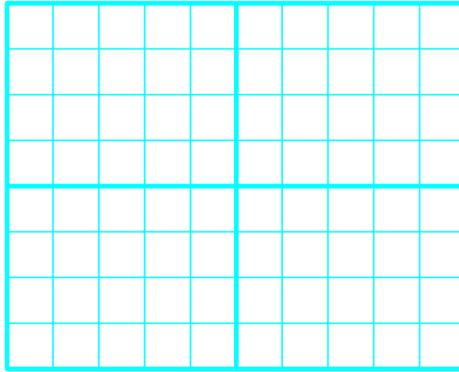

Figure 6.13 *Input/output signal waveforms for triangular input voltage*
3.5. For a triangular input signal with $V_{in,p-p} = 0.4\text{V}$, draw the input and output waveforms in Figure 6.13 of the Lab Measurements Sheet. Determine if the output waveform is what you would expect from an ideal integrator. How close is the waveform to the ideal integrator circuit? Record your observations in section 3.3 of the Lab Measurements Sheet.